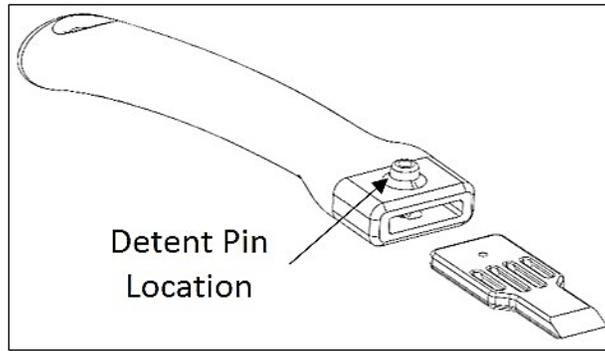

Figure 5. TSB Installation
3.1.5. Attach the appropriate TSB to the handle by inserting the TSB into the slot on the handle. When installed correctly, an audible “CLICK” should be heard when the blade engages the detent pin. See **Figure 5**.